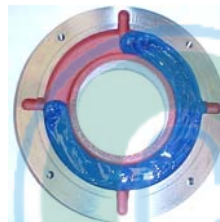

Figure 7.8: Outer bearing cap
- Fill up to ¾ of the inner and outer bearing cap deposits with the recommended grease (Figure 7.8) and lubricate the rolling bearing with enough grease before assembling it;